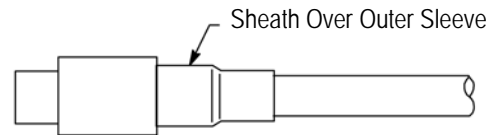

Figure 4
6. Slide the sheath over the outer sleeve until the ends are aligned. Using a heat gun, apply indirect heat to the sheath until the sheath has shrunk and is secured to the cable. Refer to Figure 4.